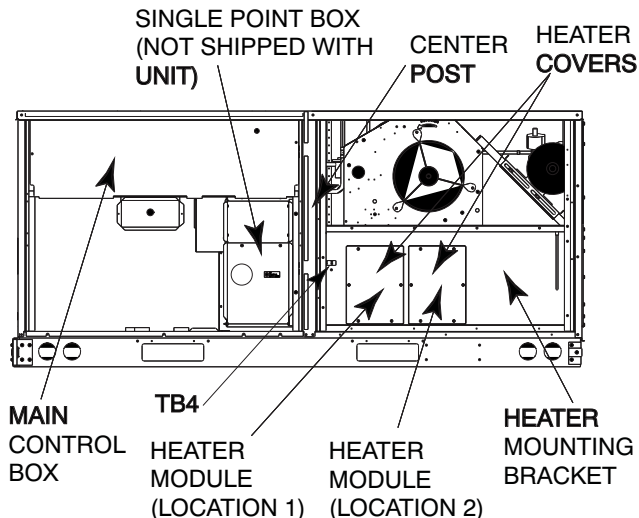

Fig. 39 - Typical Component Location
4. Remove control box cover and center post. Save screws (See Fig. 39).
5. Factory control wiring for heaters runs from unit control box to terminal block TB-4, mounted in heater compartment to left of module 1 location (See Fig. 39). Connect the heater control wiring at TB-4.